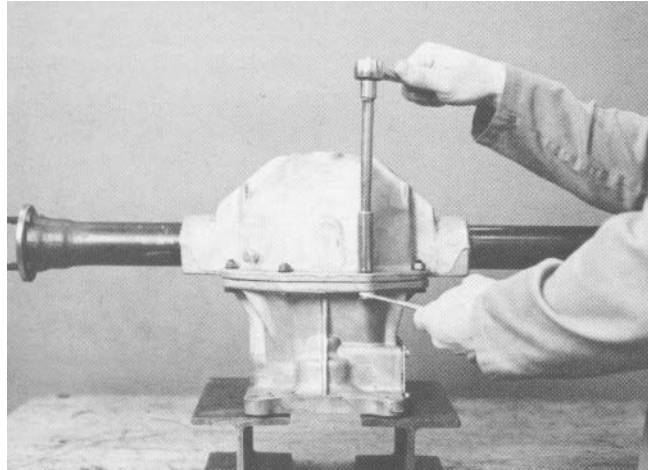

Figure 23
2. Remove the eight (8) housing cap screws and separate the upper and lower axle housings (Fig. 23). Clean the gasket material from the mating surfaces.